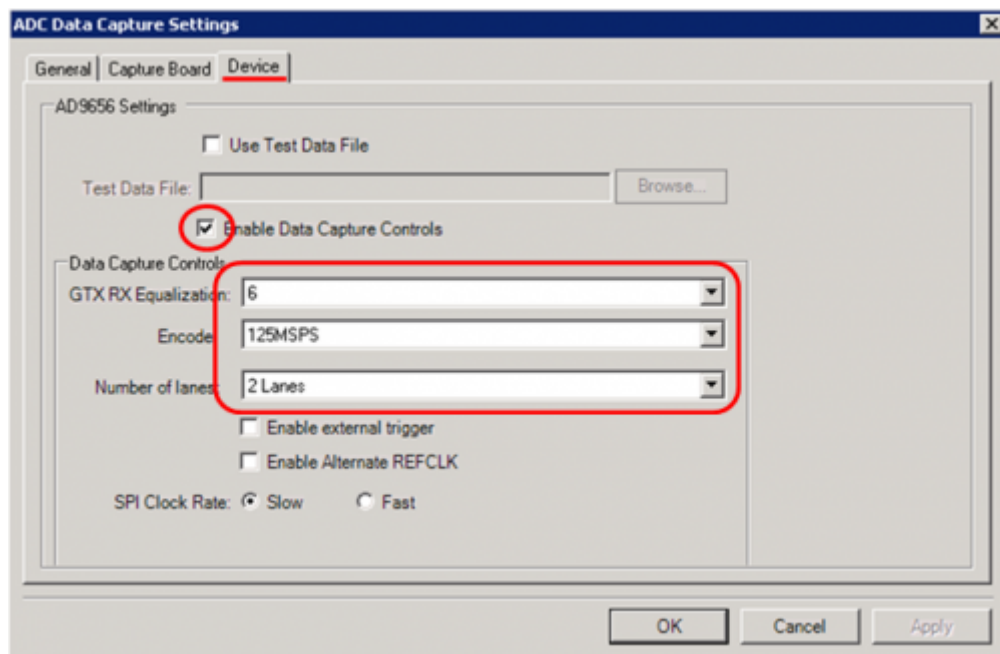

Figure 10. VisualAnalog ADC Data Capture Settings Window, Device Tab
4. In the **ADCBase1** tab of the **SPIController** window, set the number of lanes the AD9656 will be configured to. Note that the number of lanes selected here must match the settings made in VisualAnalog as shown in Step 7, Figure 10 above.